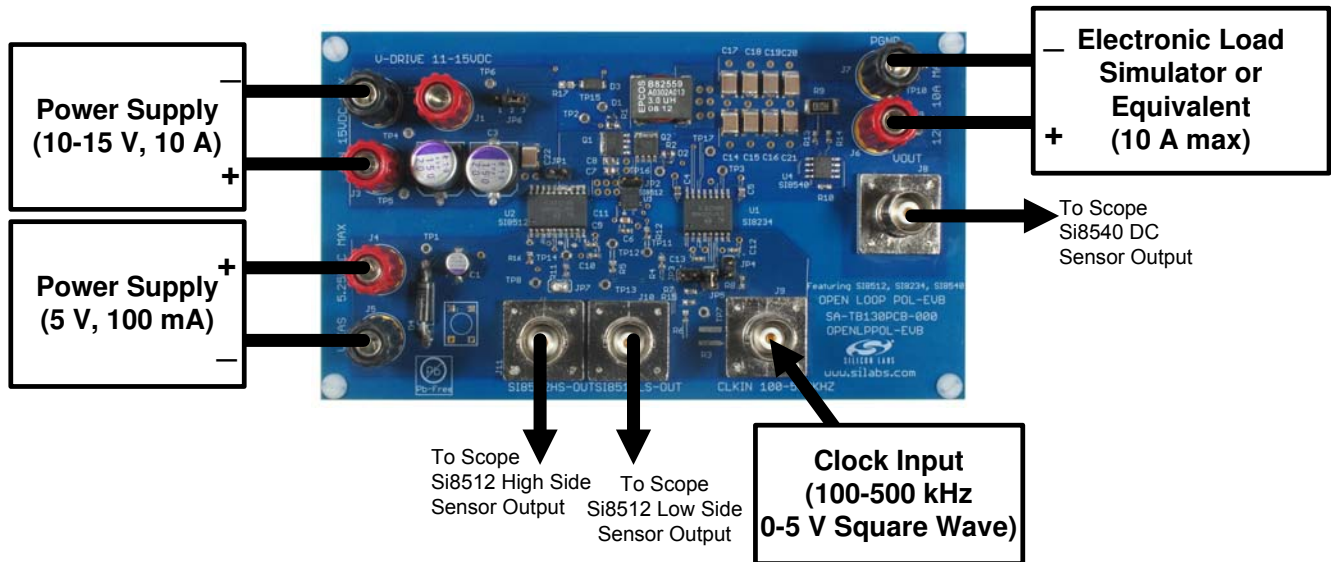

Figure 3. Summary Diagram of Test Setup
3. See Figure 3 for a summary diagram of the test setup.